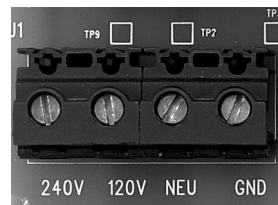

FIGURE 5b
- 2) If “PWR OK” Green LED is OFF, verify the correct AC source power is available at input terminals (Figure 5b). If yes, replace the Power Supply/Controller.
Wire AC power to the appropriate Power Input Connections on Power Supply/Controller (see Figure 5b).